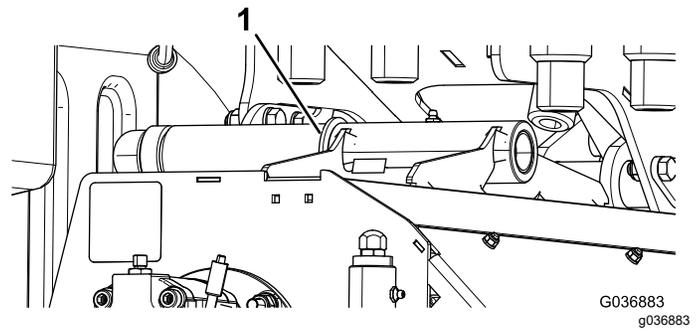

Figure 79
Note: Retain the washer on the center cutting unit between the arm and the pivot casting, as well as the other hardware (Figure 79).
- Note:** Install the existing washer on the center cutting unit between the arm and pivot casting (Figure 79).